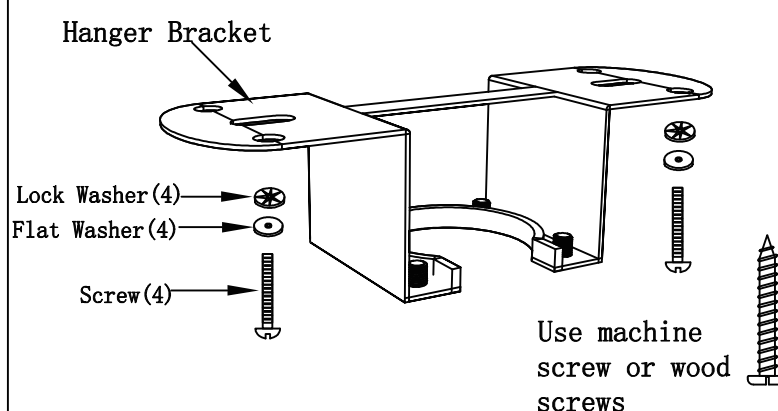

Figure 3
- Loosen the two set screws in the down rod support of the motor assembly. Route the black, white and blue wires through the down rod. (Figure 3)
Securely attach the hanger bracket to the outlet box using the outlet box screws and washers supplied with the outlet box. (Figure 3)
- ☐Lastly,connect blue wire from receiver unit to the blue fan light wire using wire connector supplied with receiver unit. (Figure 3)